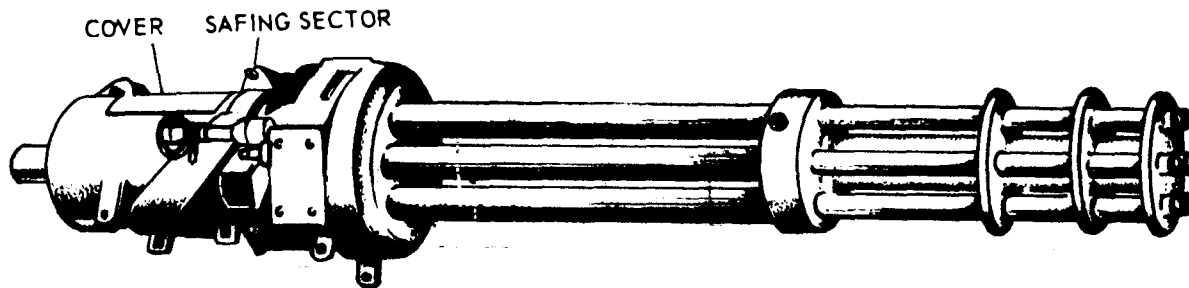

Figure 9-20. GAU-2 7.62-mm "Mini-Gun"
- b. Remove two long and two short pins and remove the cover plate and safing sector (see figures 9-20 and 9-21)